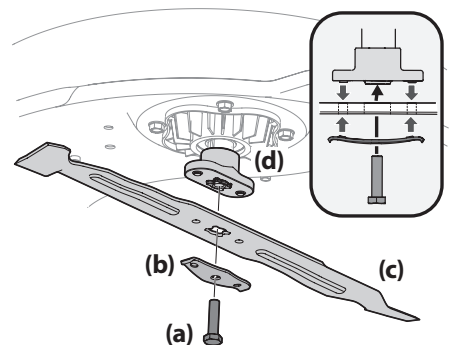

Figure 24
- Remove the hex screw (a) and the blade bell support (b) which holds the blade (c) and the blade adapter (d) to the deck motor. See Figure 24.
- Remove blade (c) and adapter (d) from the deck motor spindle. See Figure 24.